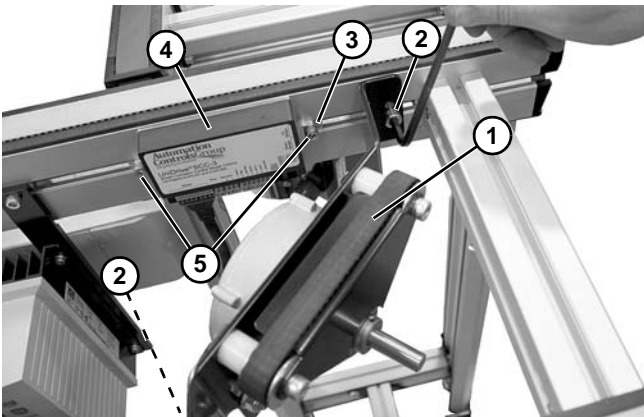

Figure 71
2. Install drive motor unit (Figure 71, item 1) to conveyor section with socket head screws (Figure 71, item 2). Do not tighten screws.
3. Install drop-in tee bar (Figure 71, item 3) in conveyor rail channel. Install drive control (Figure 71, item 4) with socket head screws (Figure 71, item 5).